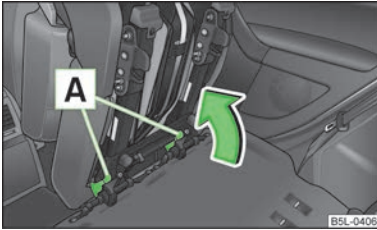

Fig. 53
- Lock the folded forward seat by pressing the seat locks **A** in the direction of arrow » Fig. 53.
- If the seat is removed, first of all position it on the guide and lock the seat » Fig. 53 on page 62. Pull the seat upwards to ensure that the seat is locked correctly.